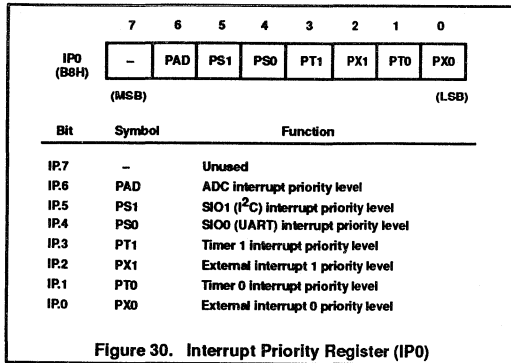

Figure 30. Interrupt Priority Register (IP0)
**Interrupt Priority Structure:** Each interrupt source can be assigned one of two priority levels. Interrupt priority levels are defined by the interrupt priority special function registers IPO and IP1. IPO and IP1 are described in Figures 30 and 31.